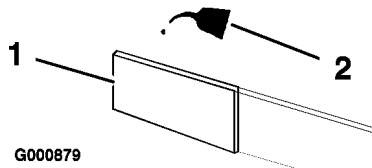

Figure 21
- C. Soak the element in new engine oil. (Figure 21). Squeeze the element to remove excess oil.